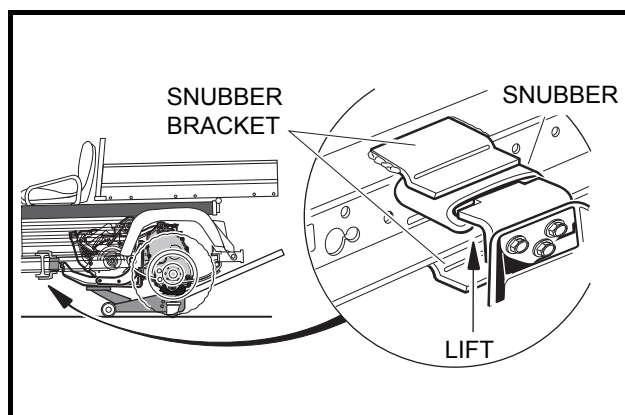
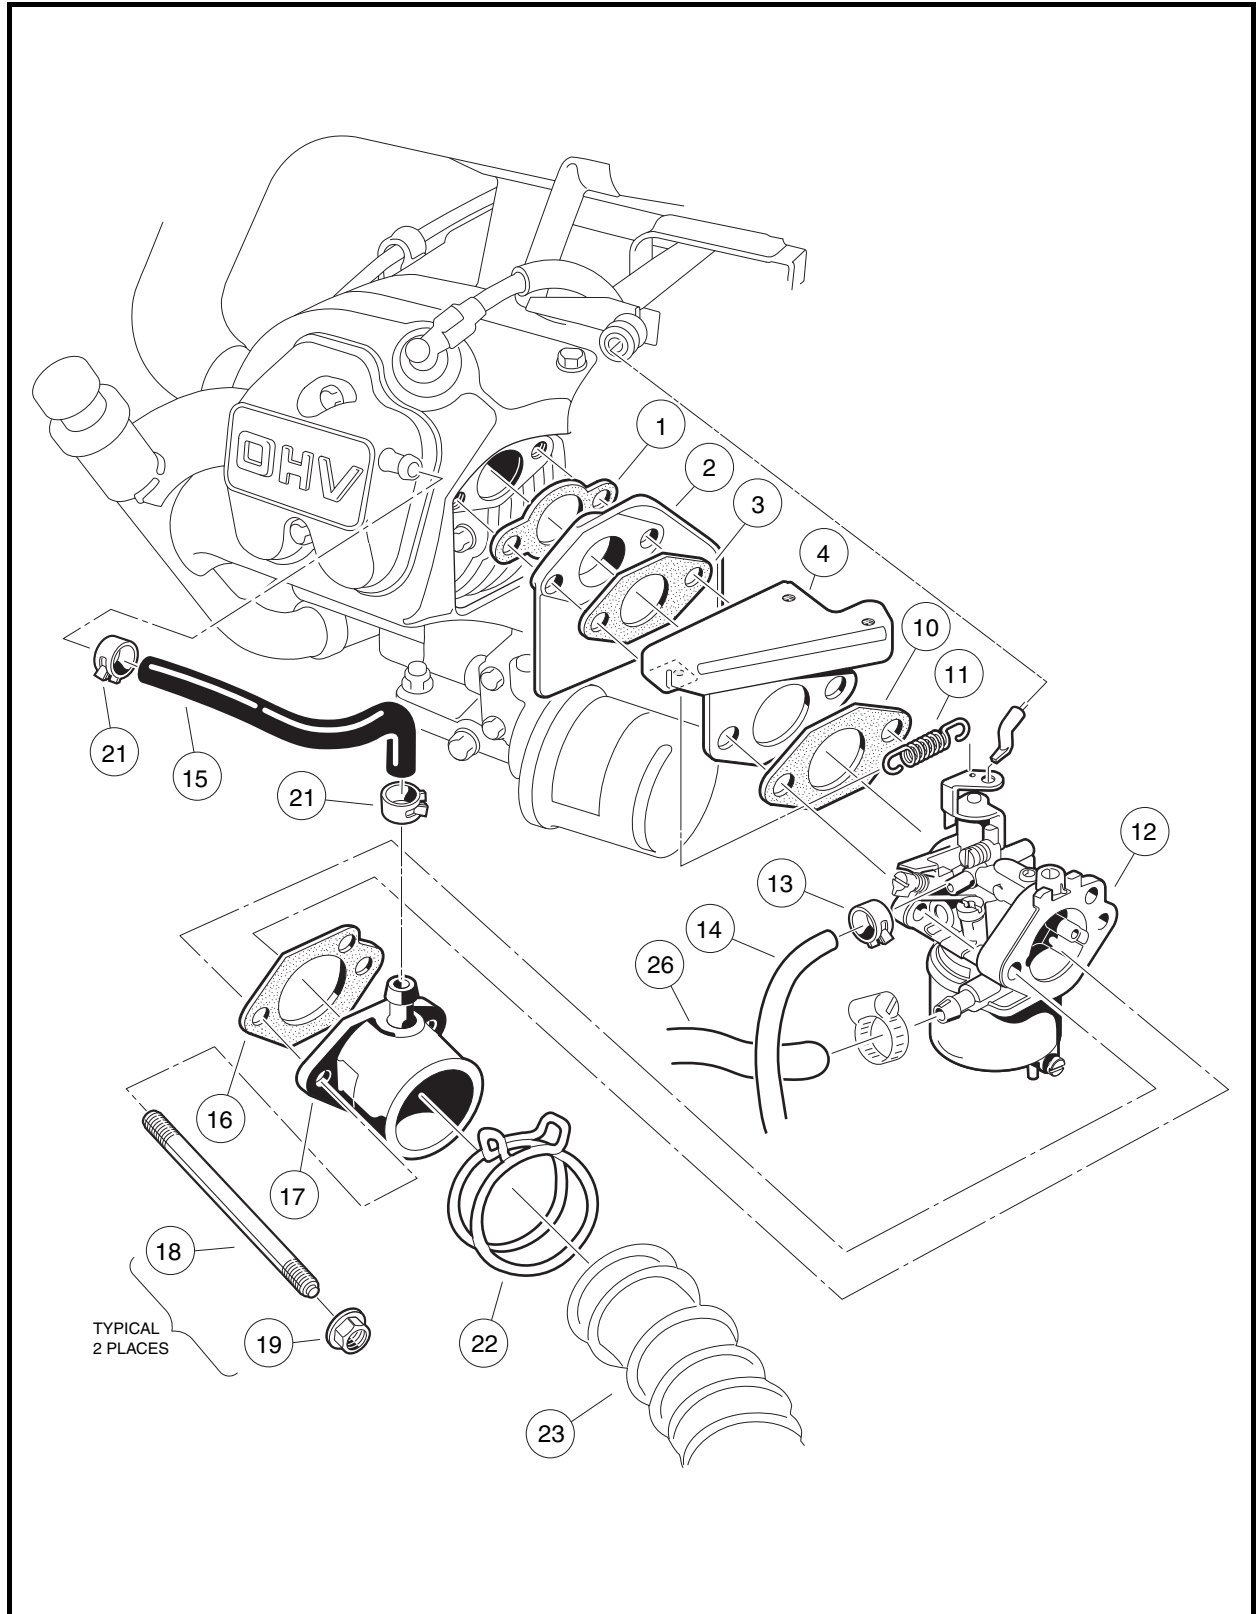

Figure 14-1 Compress Engine Snubber
Figure 14-2 Carburetor Installation
1. Remove the carburetor (**Figure 14-2, Page 14-4**).
- 1.4. Loosen the intake air hose clamp (22) and disconnect the hose (23) at the carburetor end only (**Figure 14-2, Page 14-4**).
- 1.8. Chock the front wheels and place a floor jack under the engine mounting plate, and raise the engine until the front bracket snubber is fully compressed. This will allow the carburetor to pass the electrical box assembly. (**Figure 14-1, Page 14-2**).
- 1.9. Remove the carburetor retaining nuts (19), intake pipe (17) and carburetor (12) (**Figure 14-2, Page 14-4**). **See following NOTE.**
**NOTE:** Note the orientation of the gasket (16), between the carburetor intake pipe (17) and the carburetor body (12) so that it can be replaced in the same orientation (**Figure 14-2, Page 14-4**).
12. Loosely attach the throttle return spring (11) to the carburetor throttle (12) and throttle bracket (4).
13. Install the carburetor (12), gasket (10), throttle spring (11), bracket (4), gaskets (1) and (3), and carburetor insulator (2) onto the manifold bolts (18) (**Figure 14-2, Page 14-4**).
14. Install the intake pipe gasket (16) (check for proper orientation) and intake pipe (17).
15. Attach the carburetor retaining nuts (19) and tighten them to 50 in-lb (5.7 N·m).
16. Lower the floor jack from under the engine mounting plate, allowing the front bracket snubber to return to normal condition (**Figure 14-1, Page 14-2**).
17. Connect fuel supply line (26) and tighten screw clamp to 9 in-lb (1.0 N·m) (**Figure 14-2, Page 14-4**).
18. Install carburetor vent line (14) and clamp (13).
20. Install the intake hose (23) and secure with hose clamp (22) (Figure 14-2, Page 14-4).